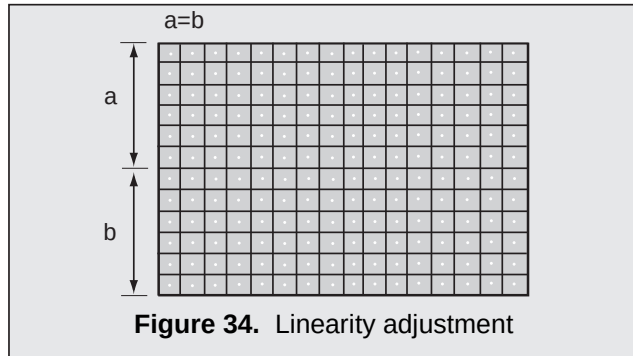

Figure 34. Linearity adjustment
1. Enter service mode, adjust linearity data "V-C" so that interval of "a" is same as "b" ($a=b$). (see Fig. 34)